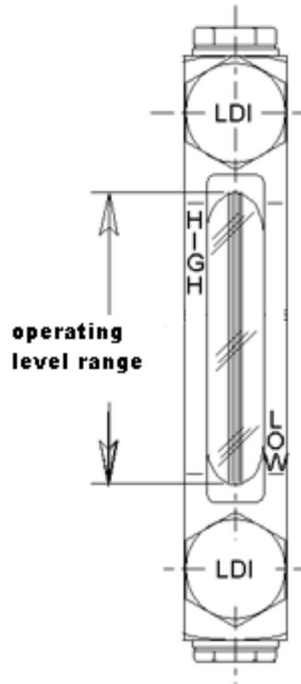

Figure 5-1 – OIL LEVEL SIGHT GLASS
OIL SIGHT GLASS - This device indicates oil level within the air/oil reservoir . See Figure 5-1 for details.
- The oil level in the sight glass will fluctuate as the compressor load changes, as a function of the air/oil volume ratio within the compressor pipe works. Refer to Figure 5-1 for typical operational oil levels attained at various compressor load levels and with a full charge of oil:
ADDITION OF OIL BETWEEN CHANGES . Oil losses (typically 2 ppm) from the oil separation system may require replenishment between scheduled changes. If (during operation only) the sight glass shows no oil or lowest acceptable level shown in Figure 5-1, add oil per the following steps: